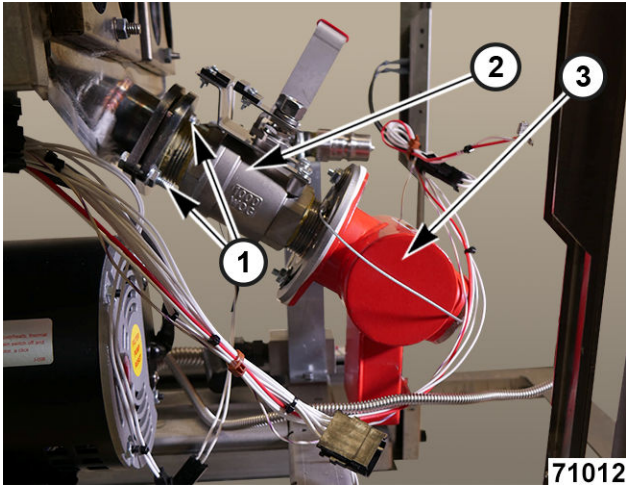
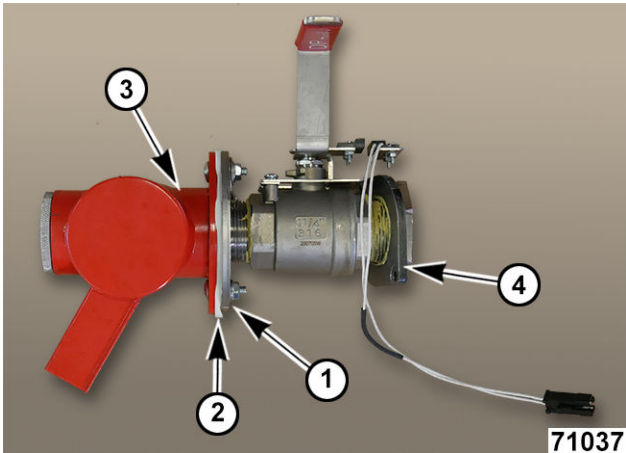

Fig. 84
Fig. 85
5. Remove drain valve bolts (1, Fig. 84).
NOTE: For a single tank fryer the entire drain assembly can be removed without removing the drain manifold (3, Fig. 84).
NOTE: For battery fryers remove drain manifold (3, Fig. 84 and (3, Fig. 85).
6. Remove drain valve (2, Fig. 84) and manifold (3, Fig. 84) assembly.
NOTE: Document orientation of fittings and transfer to new valve using high temperature thread sealant such as Rectorseal or equivalent. Ensure flange (4, Fig. 85) is placed onto fitting before it is threaded into new valve.
7. Reattach drain manifold (3, Fig. 85) to flange (1, Fig. 85) with new gasket (2, Fig. 85).
NOTE: For a single tank fryer, install drain valve (2, Fig. 84) and drain manifold (3, Fig. 84) as an assembly with new O-ring.
NOTE: For battery fryers install drain valve (2, Fig. 84) with new O-ring first, then install drain manifold (3, Fig. 84) with new gasket (2, Fig. 85).
8. Install drain valve bolts. (1, Fig. 84).